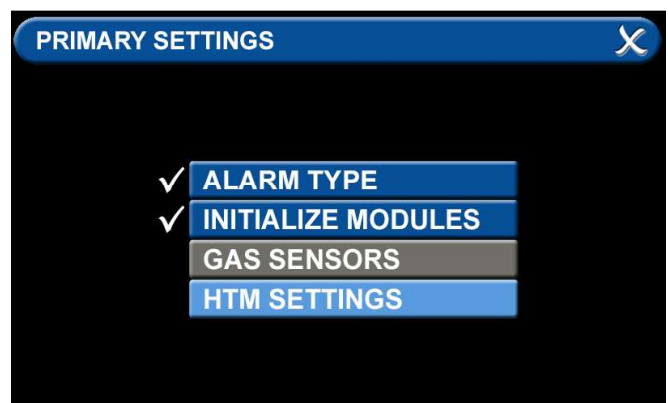

Figure 153: Medipoint Network Setup
- To transmit and receive signals, the HTM Settings tab has to be initialized (Figure 153).